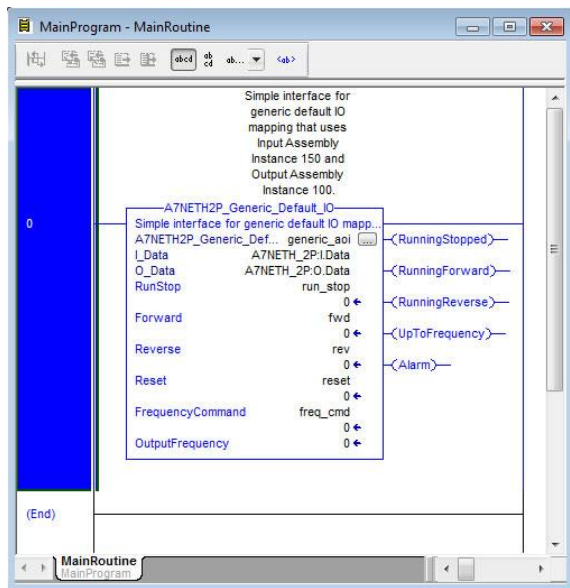

Figure 33: Configure Generic Default AOI
- Edit the add-on instruction according to Figure 33.